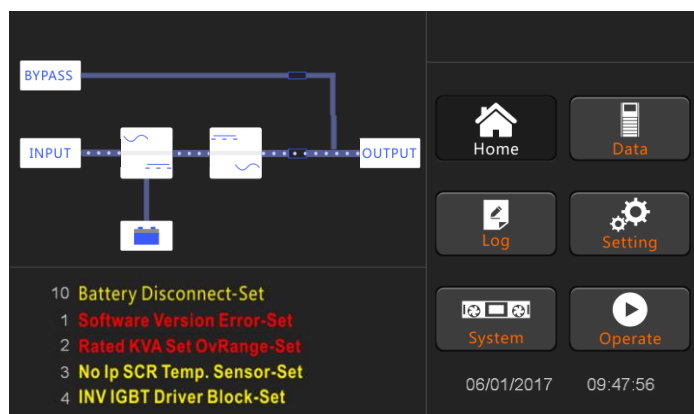

Fig.4-4 Interface of inverter mode
7. After about 30S, when the inverter is running normally, the UPS switches from the bypass to the inverter, the bypass indicator bar is off, and the load indicator bar flashes. As shown in Fig.4-4.